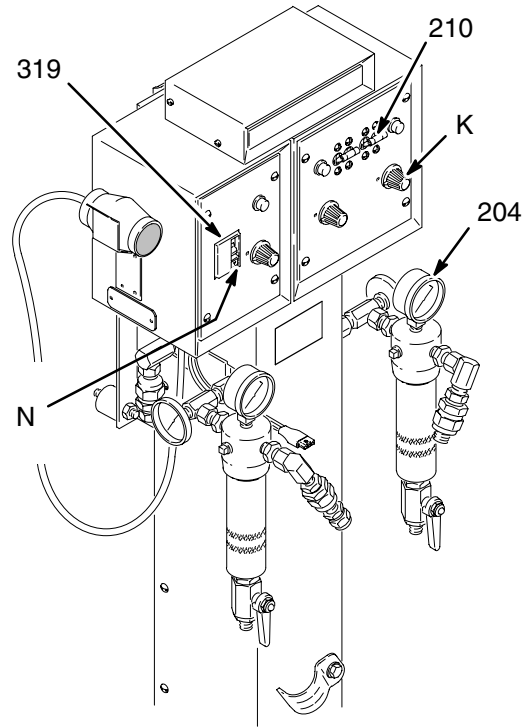

Fig. 8
2. Set all three Temperature Set dials (K) to **CAL.** See Fig. 8.
3. Turn the circuit breakers (210 and 319) to **I (ON).** See Fig. 8.
5. The heater lamps should blink within 10 seconds after turning on the circuit breakers. With fluid flowing only, check the heater thermometers (204) regularly and manually adjust the fluid temperature as needed. See Fig. 8.
7. If using a heated hose control, test the Ground Fault Interrupter (GFI) daily. To test, depress the button (N). See Fig. 8. If the circuit breaker shuts off, the GFI is working properly.